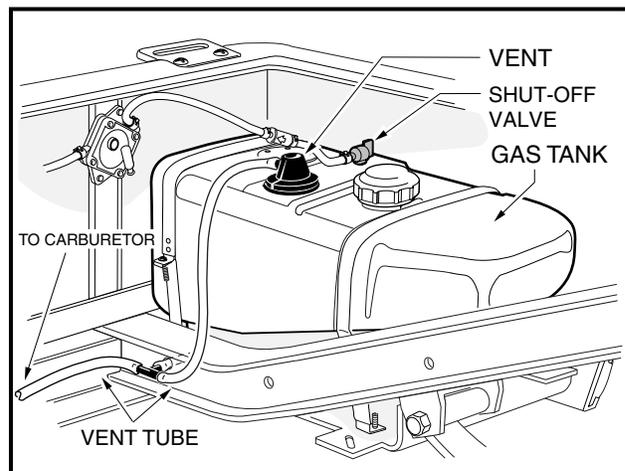

FIGURE 21
- **IF THE VEHICLE HAS AN ALL-WEATHER ENCLOSURE INSTALLED, THE GAS TANK MUST BE PROPERLY VENTED AS SHOWN (FIGURE 21).**